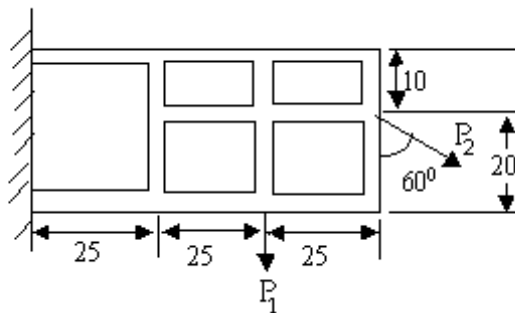

Figure 4b
- (b) Find the shear flow in each web of the beam shown in the figure 4b. Plot the distribution of axial load along each stiffening member when  $P_1=20$ kN and  $P_2=10$ kN. All dimensions are in cm. [6+10]